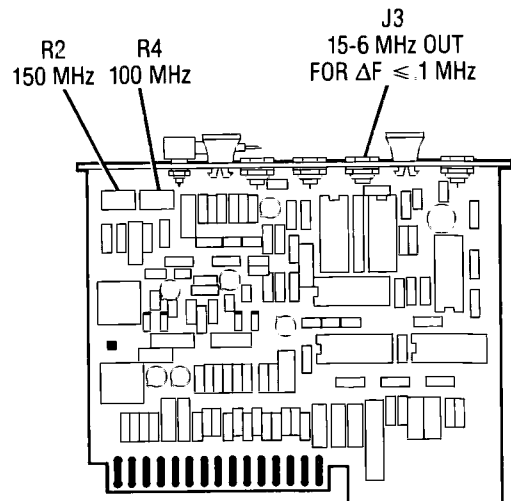

Figure 5-10. Location of PLL2 Adjustments
6. Adjust A40R2 (150 MHz) for a DVM indication of $+3.0 \text{ Vdc} \pm 0.5 \text{ Vdc}$. Refer to Figure 5-10 for location of adjustments.